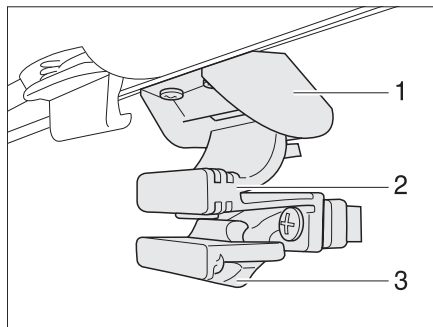

Fig. 47 Window in the conversion door
- Press the locking device (Fig. 47,3) to the rear.
- Press the handle (Fig. 47,2) together and push the window down.
- Push the window upwards until the handle (Fig. 47,2) latches into the locking mechanism (Fig. 47,1).